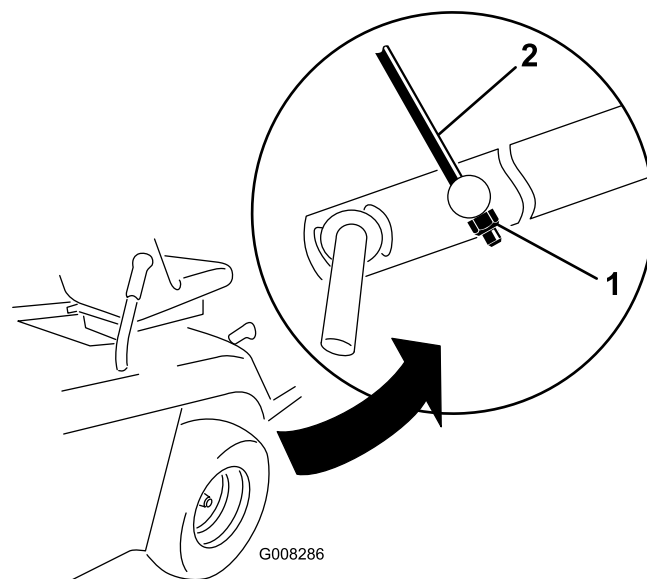

Figure 43
9. Adjust the M8 locknut at the end of the height adjustment rod assembly until the rod is slightly taut (Figure 43).